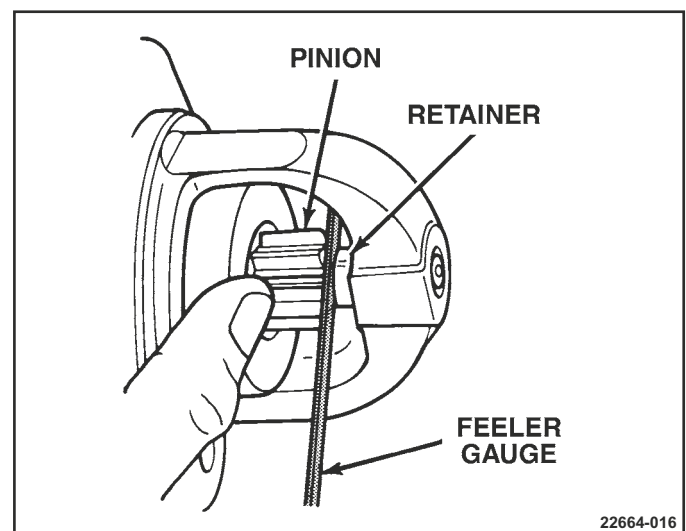

Figure 4-11 Checking Starter Pinion Clearance
4. Push pinion back toward commutator end to eliminate slack (figure 4-11).